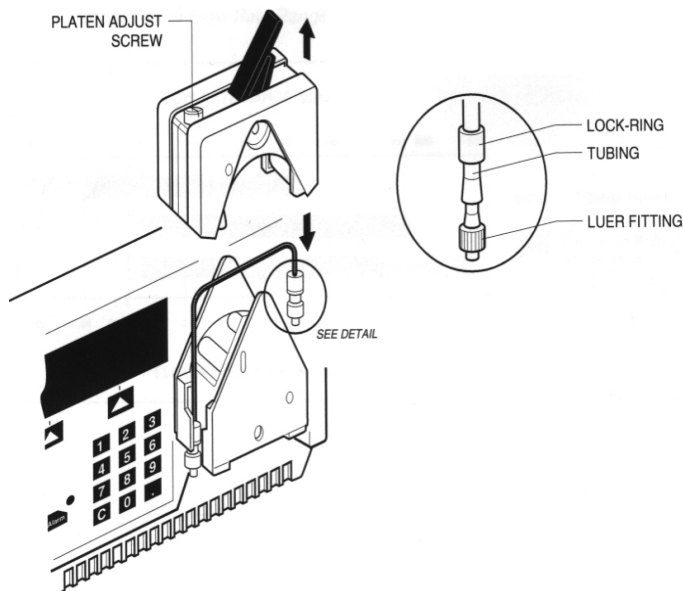

Figure 2: Controller Pump
8.6.2.1. Remove the platen by lifting the grey handle (figure 2).
8.6.2.4.1. Loosen the platen adjust screw located on the top of the pump (fig. 2) by turning counterclockwise until there is slight resistance.
- 9.2. Figure 2: Controller Pump